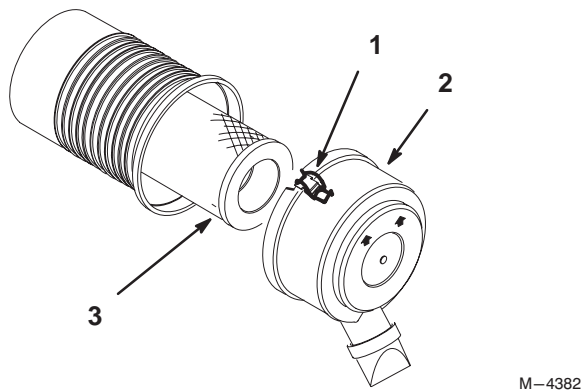

Figure 25
3. Clean around the air cleaner to prevent dirt from getting into the engine and causing damage. Loosen retaining clips and remove air cleaner cover (Fig. 25).
4. Carefully remove filter from compartment (Fig. 25).
1. Carefully slide the element into the compartment (Fig. 25).
2. Place the air cleaner cover onto compartment and latch retaining clips (Fig. 25).